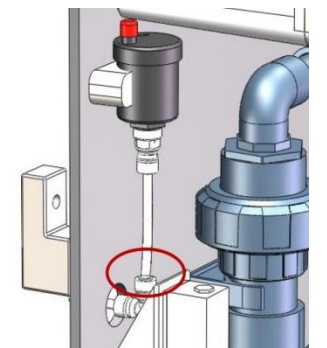

Figure. 10
10. Use the matching hose to connect the exhaust valve to the line, as shown in Figure.10